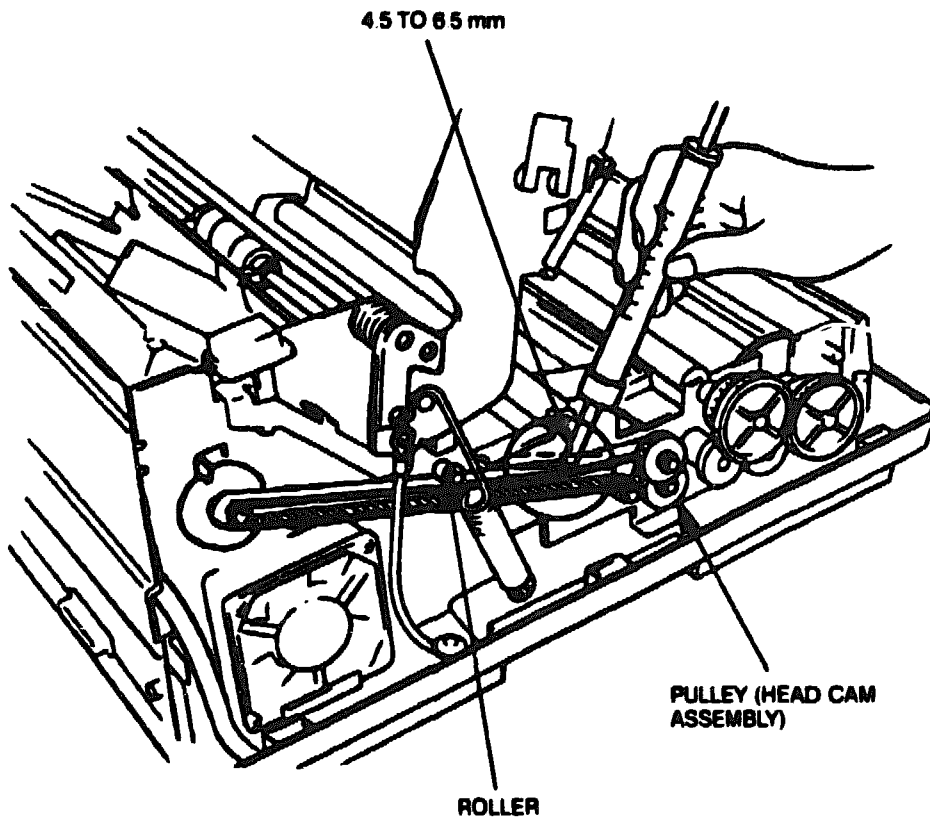

Figure 4-6 Timing Belt B328MXL9.5 Tension Measurement
2. Using a 500 g tension gauge, press on the center of timing belt B328MXL9.5 between the roller and the head cam pulley with a load of 150 g. Then, using a small, metric ruler, check that the flexure value of the pressed belt is between 4.5 and 6.5 mm (see Figure 4-6). If the correct value is not attained, proceed as follows.